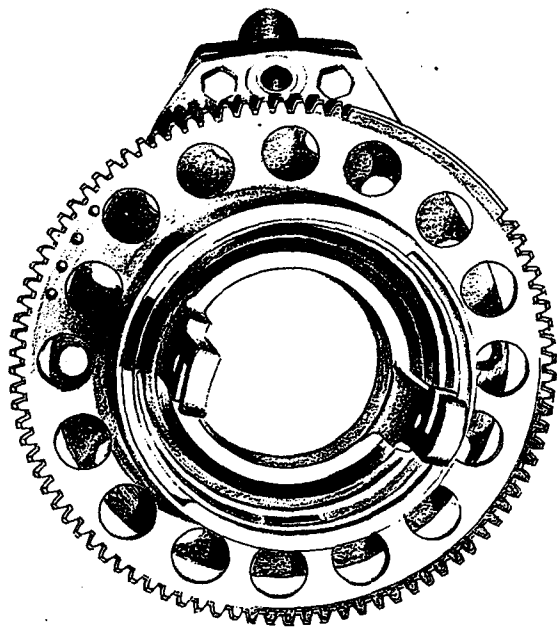

Figure 26
(2) Slip the pitch-change gear over the actuator arms with the blank section adjacent to the pinion gear bracket. Turn the gear clockwise onto the sleeve. The blank section of the gear should then be at the edge of the pinion gear bracket. (See figure 26.)